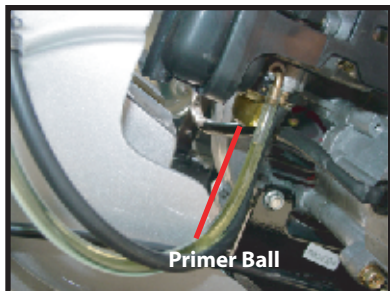

Fig. 1
3. You will first need to prime the engine with fuel. The primer ball is located on the carburetor, which is on the front of the engine. (Fig. 1)